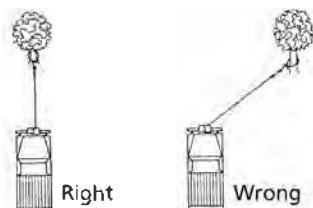

Figure 5
13. **AVOID CONTINUOUS PULLS FROM EXTREME ANGLES** as this will cause the wire rope to pile up at one end of the drum (Figure 5). This can jam the wire rope in the winch, causing damage to the wire rope or winch itself.